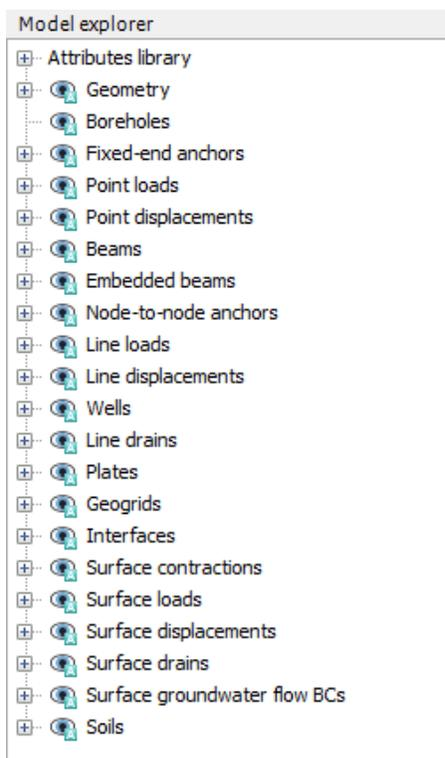

Figure 24: Layout of the Model explorer in different modes: Structures Mode
*Model explorer* displays information related to the physical entities composing the model. It is automatically updated as the model is modified (Figure 24: Layout of the Model explorer in different modes: Structures Mode (on page 54)).